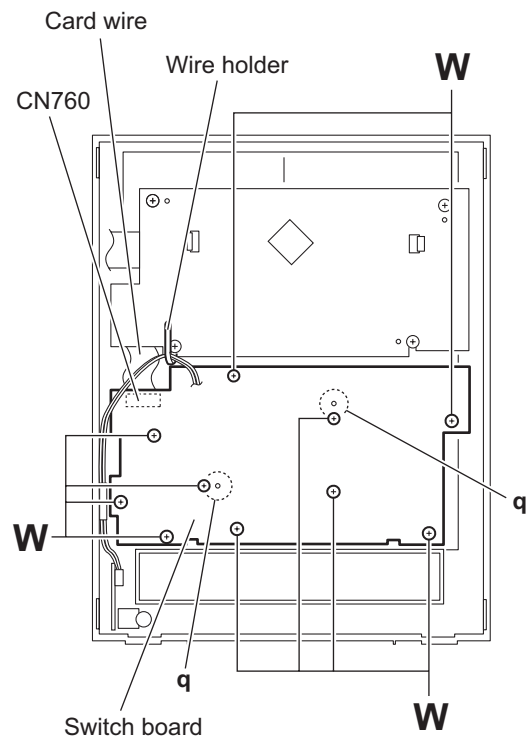

Fig.28
- (2) From the inside of the front panel assembly, remove the ten screws **W** attaching the switch board. (See Fig.28.)
- (3) Take out the switch board from the front panel assembly and disconnect the card wire from the connector **CN760** on the switch board. (See Fig.28.)
- When attaching the switch board, align the projections **q** of the front panel assembly in the holes of the switch board. (See Fig.28.)